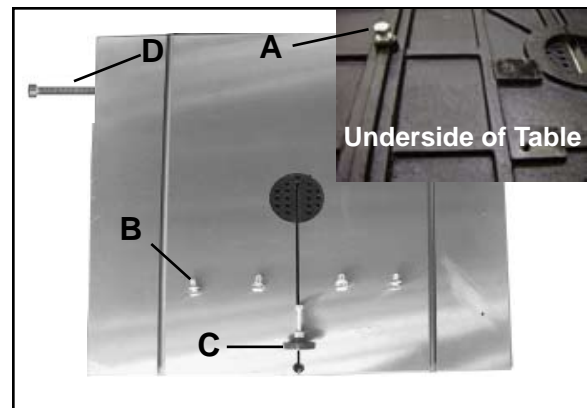

Figure 2
Installing 90°stop: Thread screw (M8x25) and nut (M8) to the bottom of the table. (A-Fig.2) With the help of another person, lift the working table onto the trunnion. Mount the working table to the trunnion using the supplied (4) hex bolts, (4) lock washers and (4) washers (B-Fig.2). Install the two bolts to the right of the blade hand tight, then tip the table to 45 degrees and install the two bolts to the left of the blade. Adjust table parallel to blade and tighten bolts.
Installing Table Leveling Screw: Insert hex socket screw and washer through top of table. Place bushing and wing nut from under the table and tighten. (C-Fig. 2)
Fence Support Bolt: Install the fence support bolt in the left rear corner of the table. (D-Fig. 2)